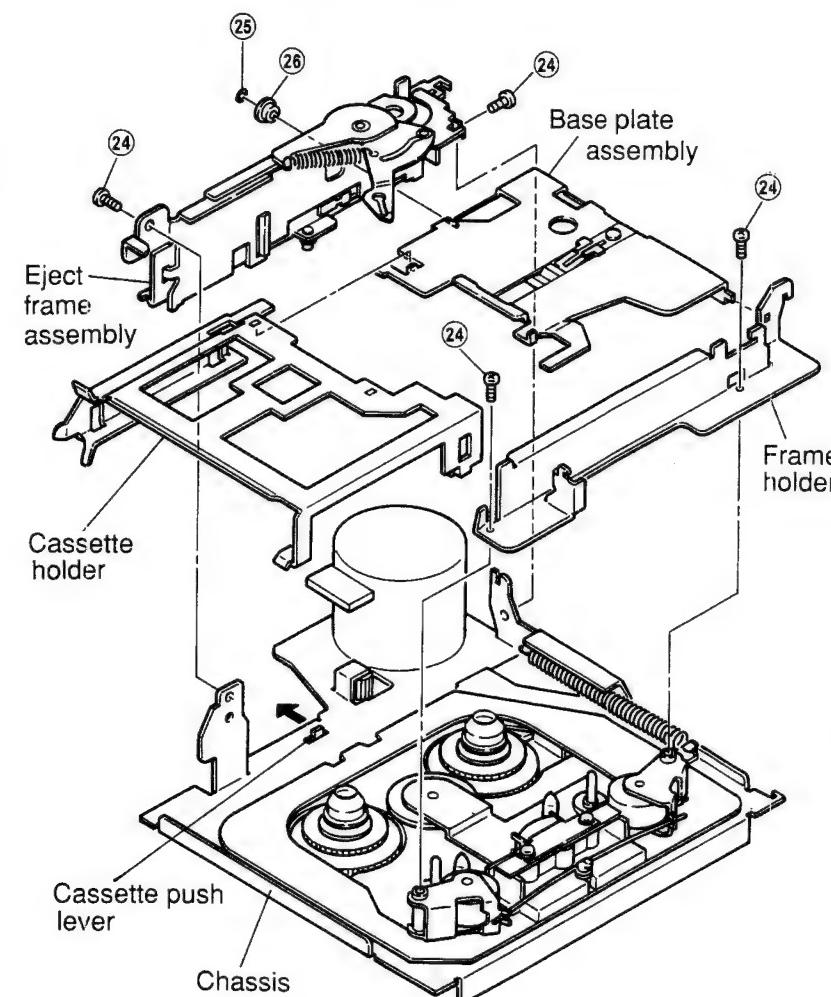

Figure 17
- (1) Remove four screws ④ and remove the eject frame assembly and the frame holder as shown in Figure 17.
- (2) Remove M1.2 lock washer ⑤ and plate base roller ⑥ and remove the cassette holder and the base plate assembly as shown in Figure 17.
- (3) Remount them following the removal steps in the reverse order.
2. When mounting the eject frame assembly, push the cassette push lever in the direction indicated by the arrow in the Figure 17.